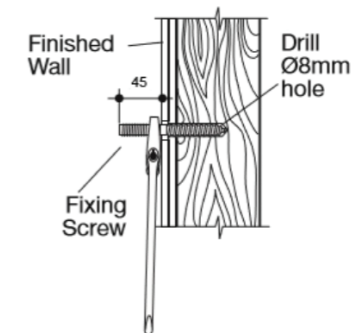

FIG 2.
3. Insert expansion fasteners into the drilled holes in masonry wall. The fixing screw should be screwed into the wall using the flat section of the fixing screw with a spanner as shown in Fig 2. Allow 43mm of thread to protrude from the finished wall.